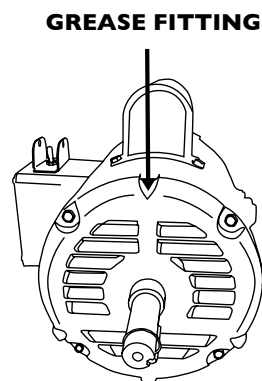

Fig 12. Grease Fittings on Electric Motor
1. There are two grease fittings (Figure 12) at each end of the electric motor that will require lubrication. Lubricate these fittings about **every 16 months**.